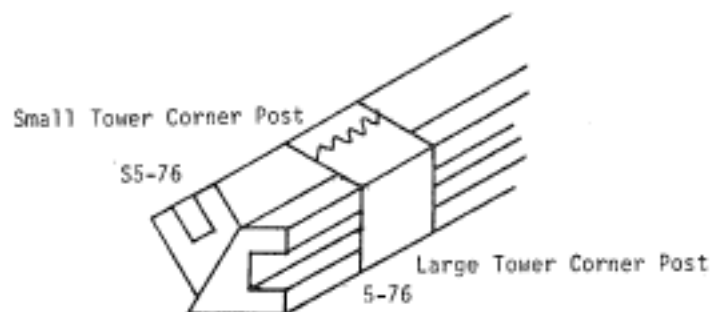

Figure 18
6. Glue 1 Large Tower Corner Post (5-76) to 1 Small Tower Corner Post (S5-76) as in Figure 18. Repeat with remaining two posts.